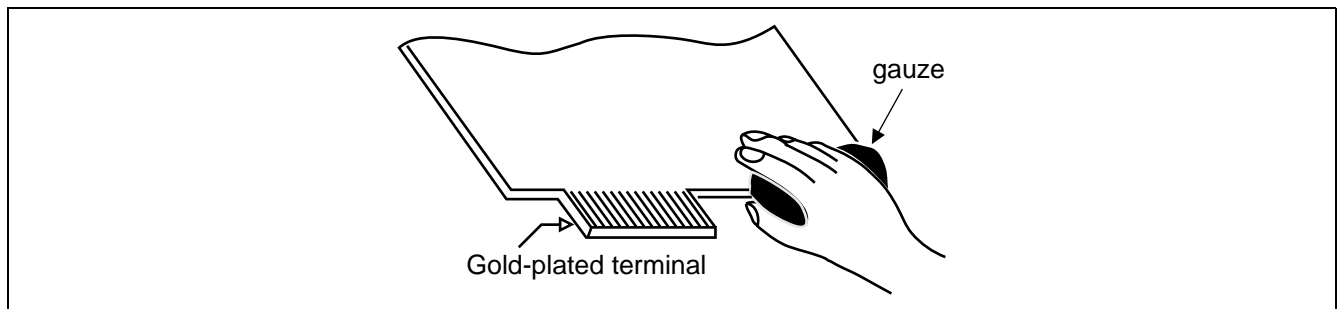

Figure 2-32 How to Clean Gold-Plated Terminal
- (b) Using a soft cotton cloth, wipe both sides of the connector portion (gold-plated terminal) clean (only PA-XX type circuit card), as shown in Figure 2-32.